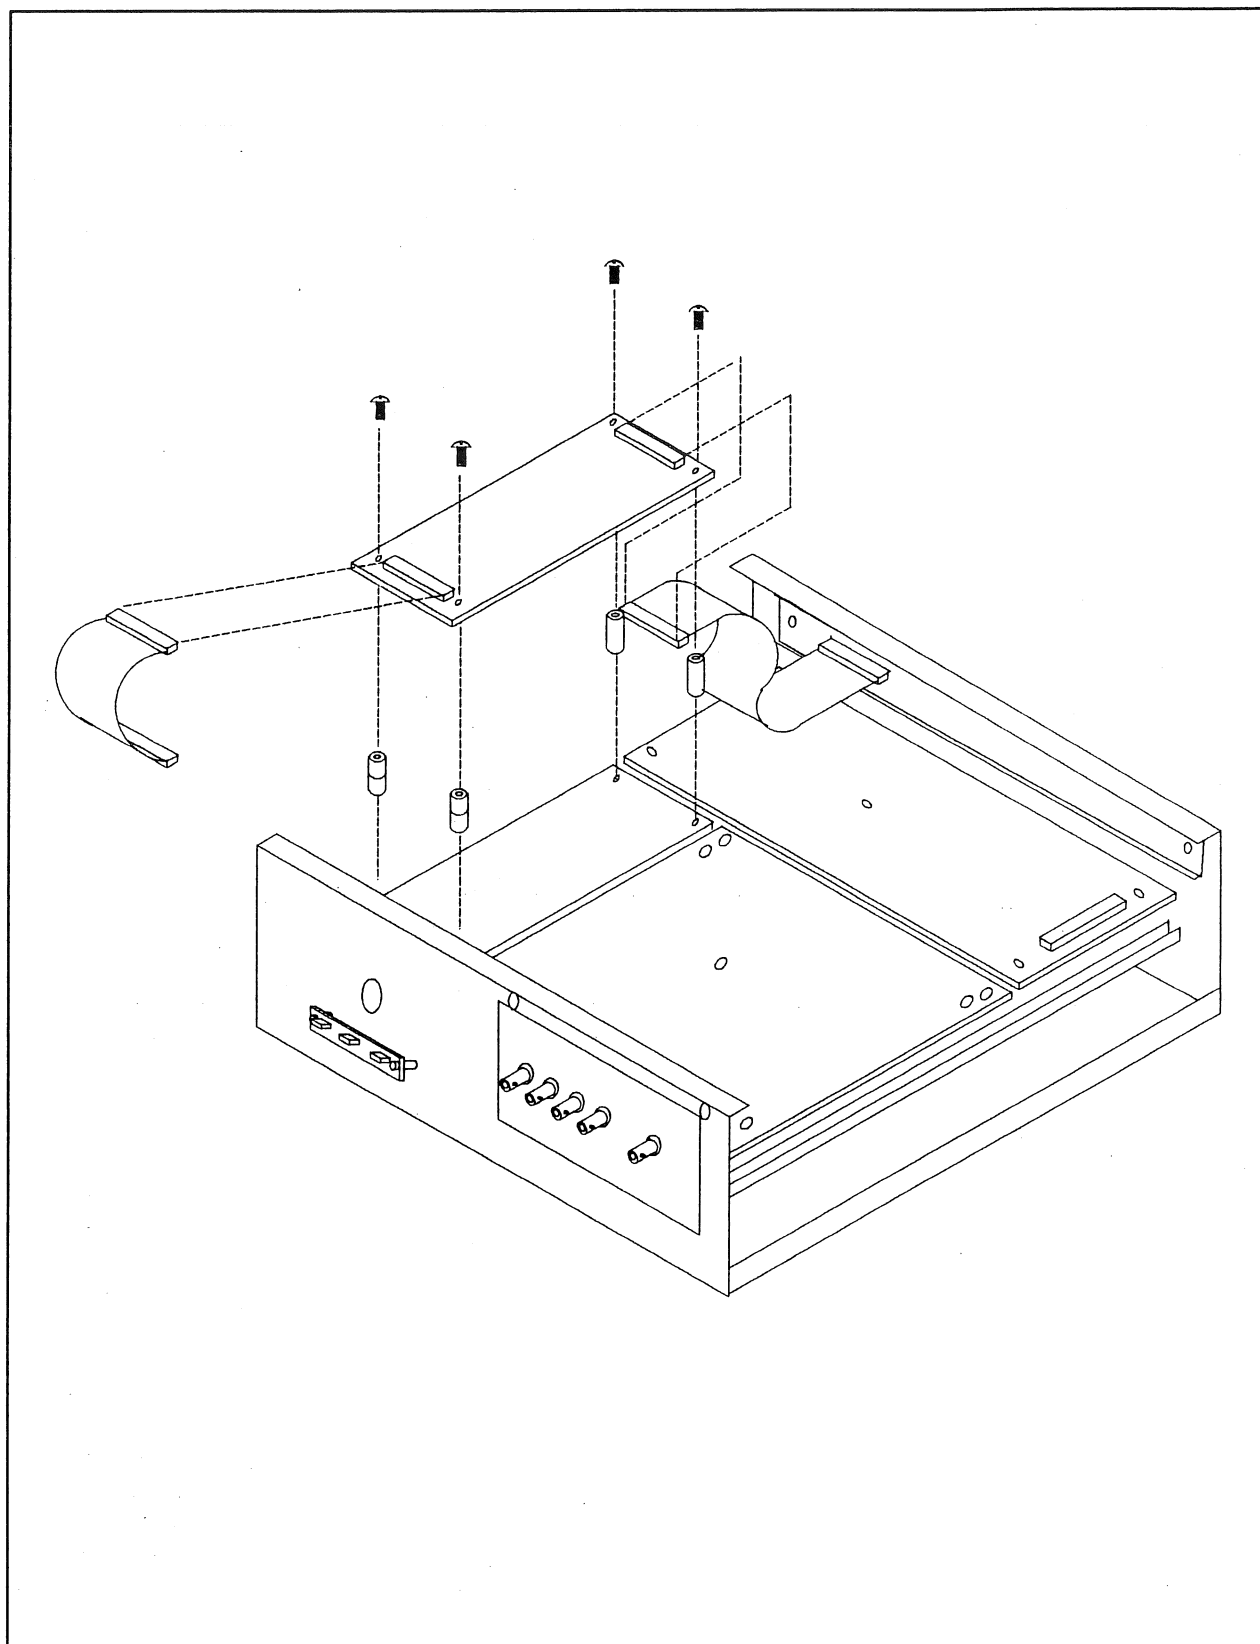

Figure 3-4. Removing the DIO Board
- 2** Remove the four screws that hold the DIO Board to the FXP Board. See Figure 3-4.